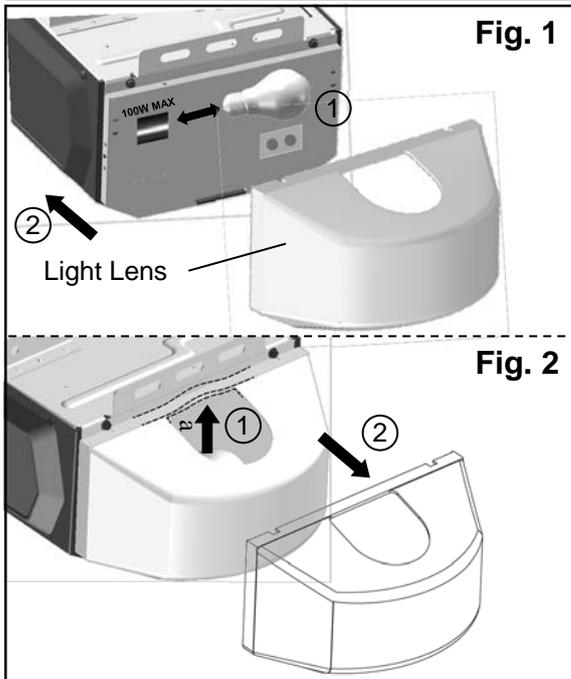

Fig. 1
2. Line up the bottom and tilt up the dome as shown in fig 1.